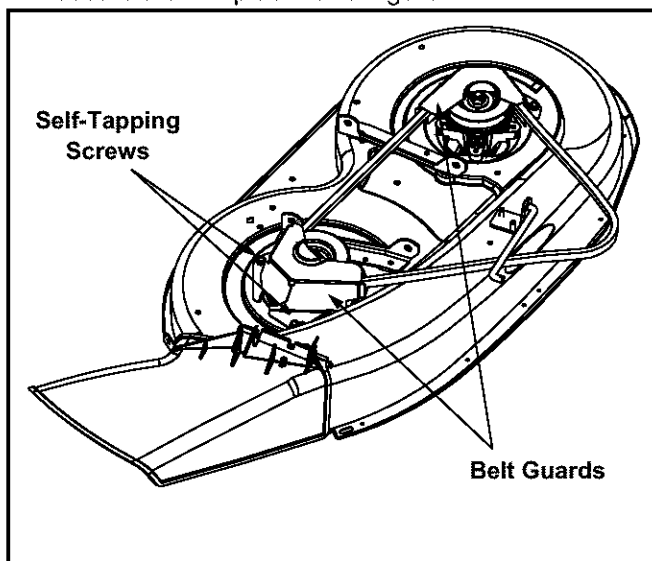

Figure 21
- Remove the belt guards (located over each spindle pulley) by removing the self-tapping screws which secure them in place. See Figure 21.